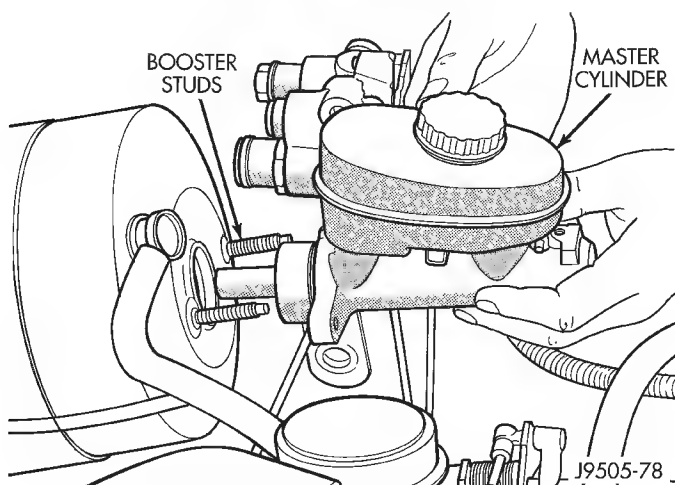

Fig. 20 Master Cylinder Installation
(10) Position master cylinder on booster studs (Fig. 20). **Be sure booster push rod is centered and seated in master cylinder piston shank.**
(11) Install and tighten master cylinder attaching nuts to 25 N·m (220 in. lbs.) torque.